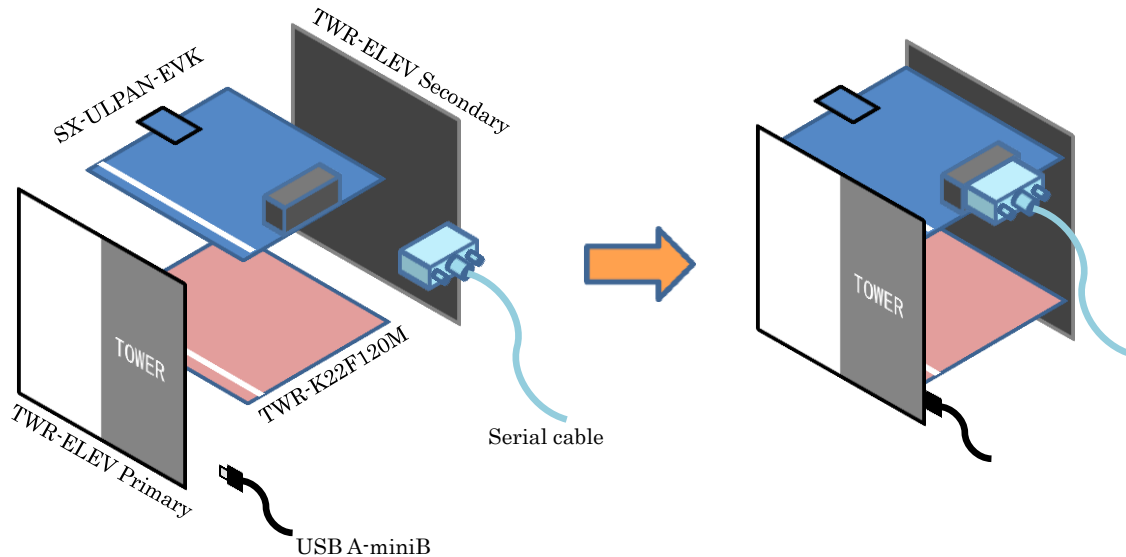

Figure 1: Connecting equipment
1. Connect equipment as shown in Figure 1.